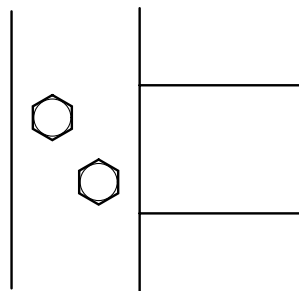

Fig. 5
- (d) Use labelled sketches to show how the structural performance can be improved in each of the examples given in Fig. 5 below. [6]